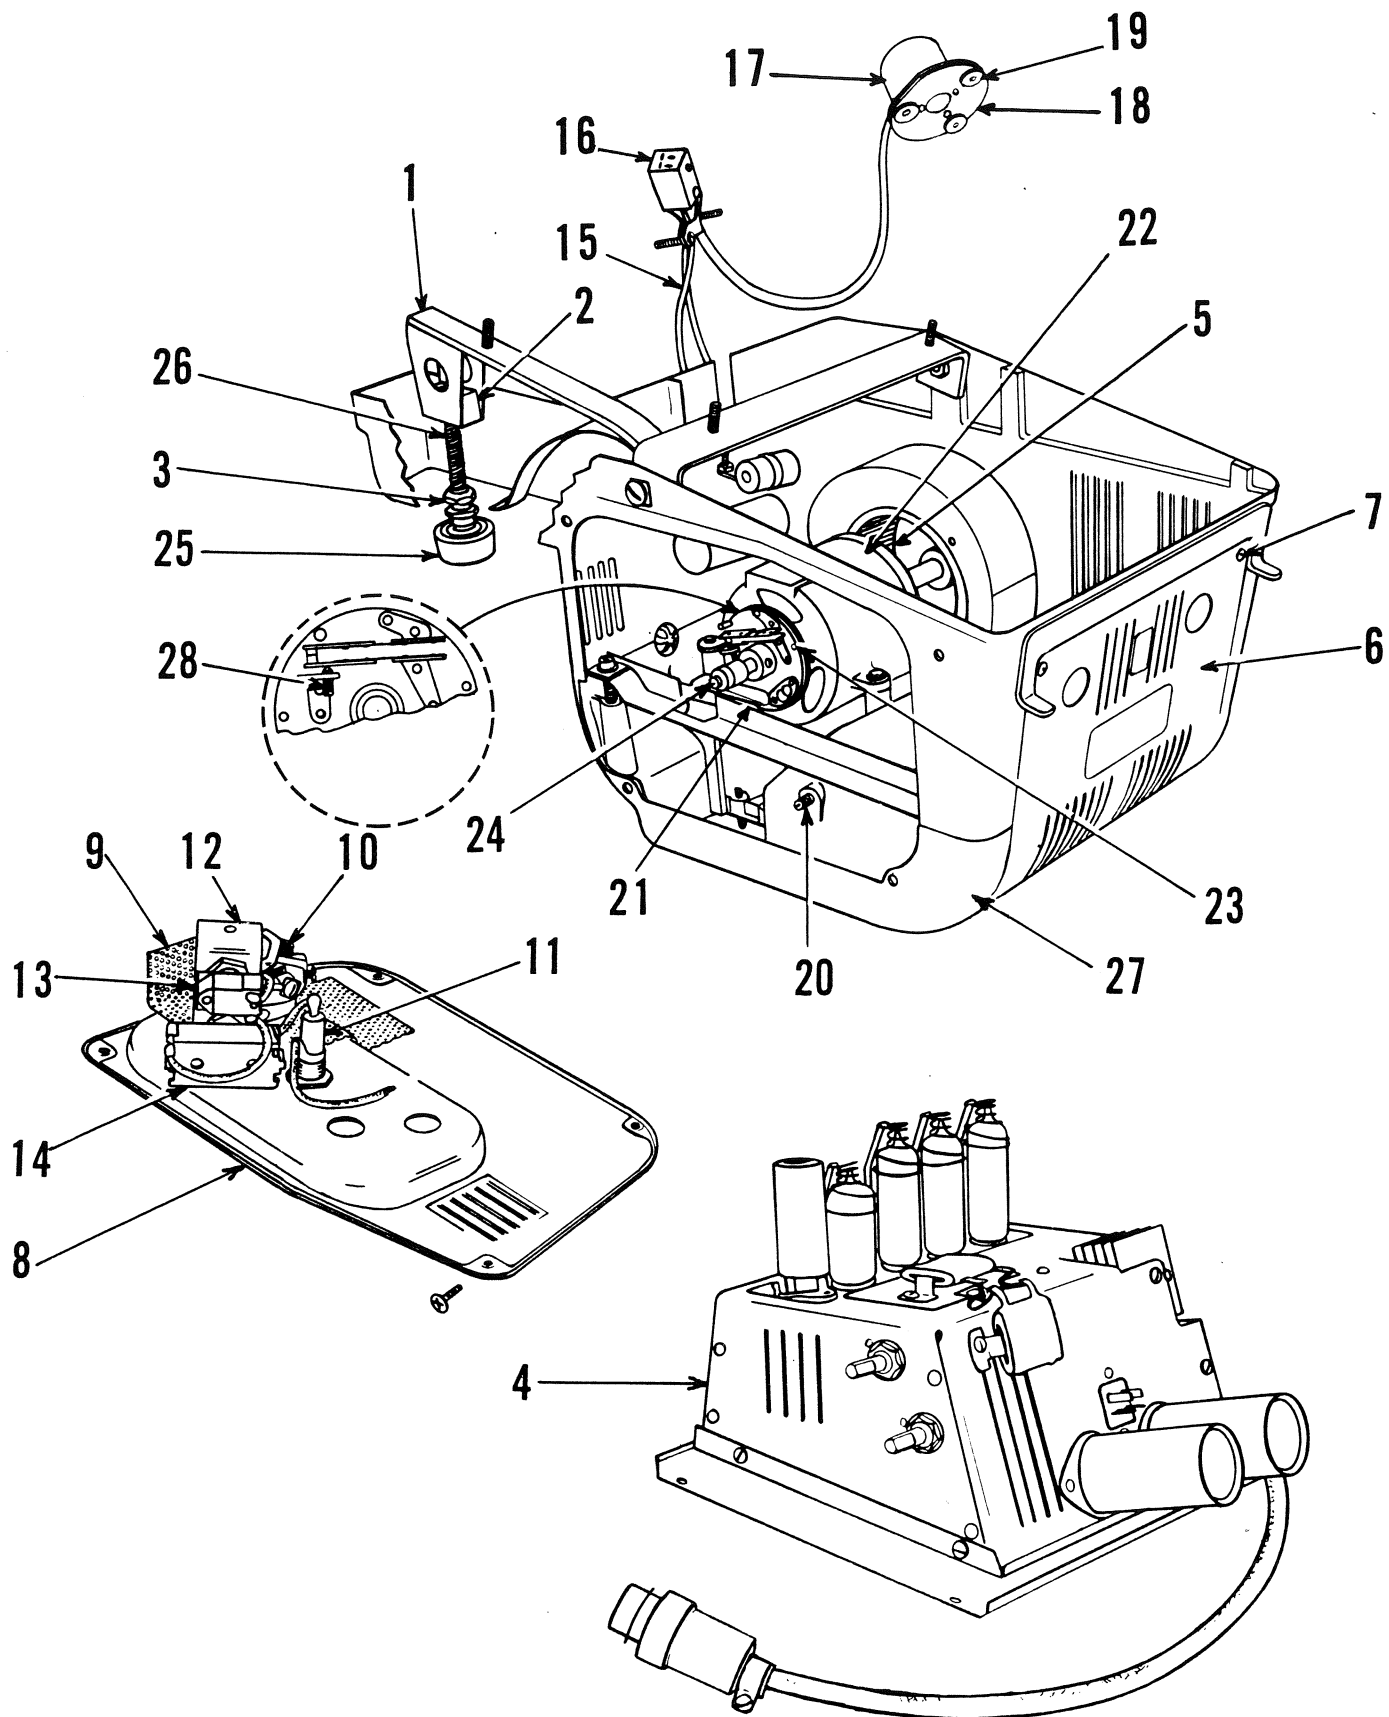

Figure 6 - BASE (Exploded view)
- d. Motor and Motor Controls (See Fig. 6) - Take off the "volume" and "tone" control knobs and remove the four screws which attach the control panel (8) to the base. Push the panel downward and tilt it outward at the top, then lift the panel upward and outward away from housing.
and remove the bottom. Slide back the photocell insulator (10) and unscrew the ringnut on the photocell receiver (9). Pull out the receiver and remove the photocell. Take off the volume and tone control knobs and remove the control panel. Take out the four screws which hold the amplifier to the projector base. Partially remove the amplifier, then disconnect the power connector (16 Fig. 6) and complete the removal of the amplifier.